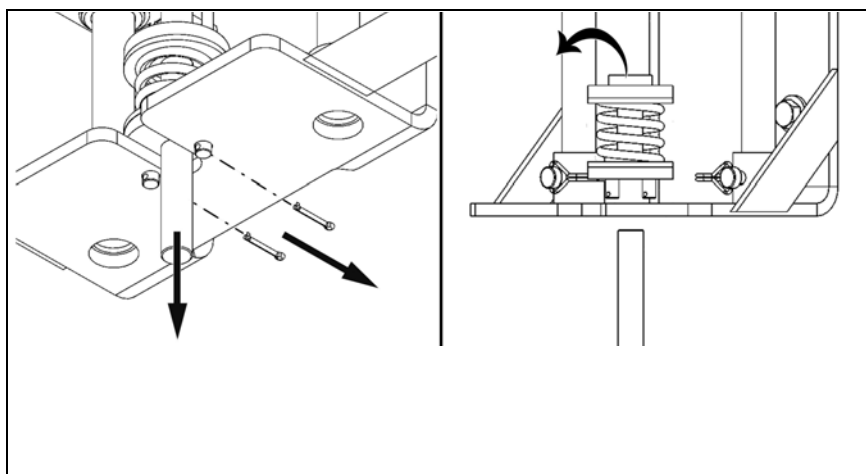

Fig. 5
5. Pull the threaded bolt (Fig. 5 left) downwards and remove it.
6. Remove the hammerlock cotter pins from the bolts (Fig. 5 left).
7. Remove the force spring with its washers and bolts (Fig. 5, right).